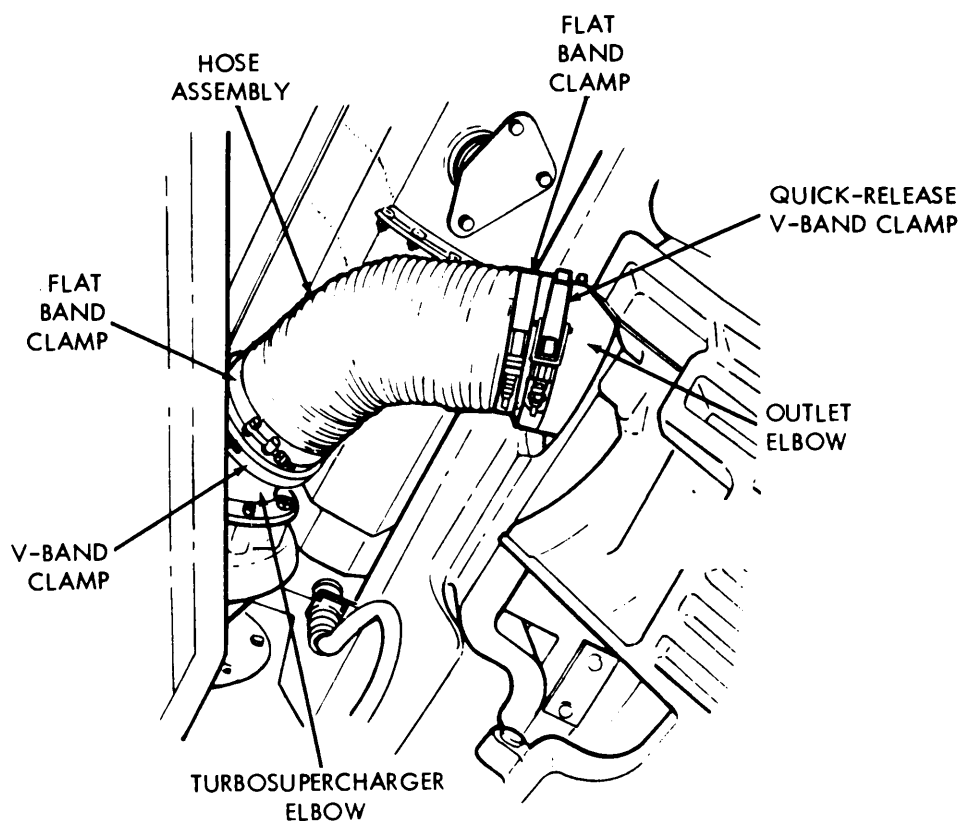

Figure 3-14. Air outlet hose replacement (quick release v-band clamp).
(4) *Outlet Hose (Quick-Release V-Band Clamp) (Fig. 3-14).*